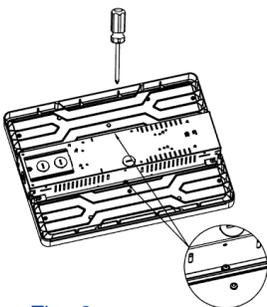

Fig. 9
1. Remove the 2 screws at the back of the luminaire that hold the optics in place. (Fig. 9)